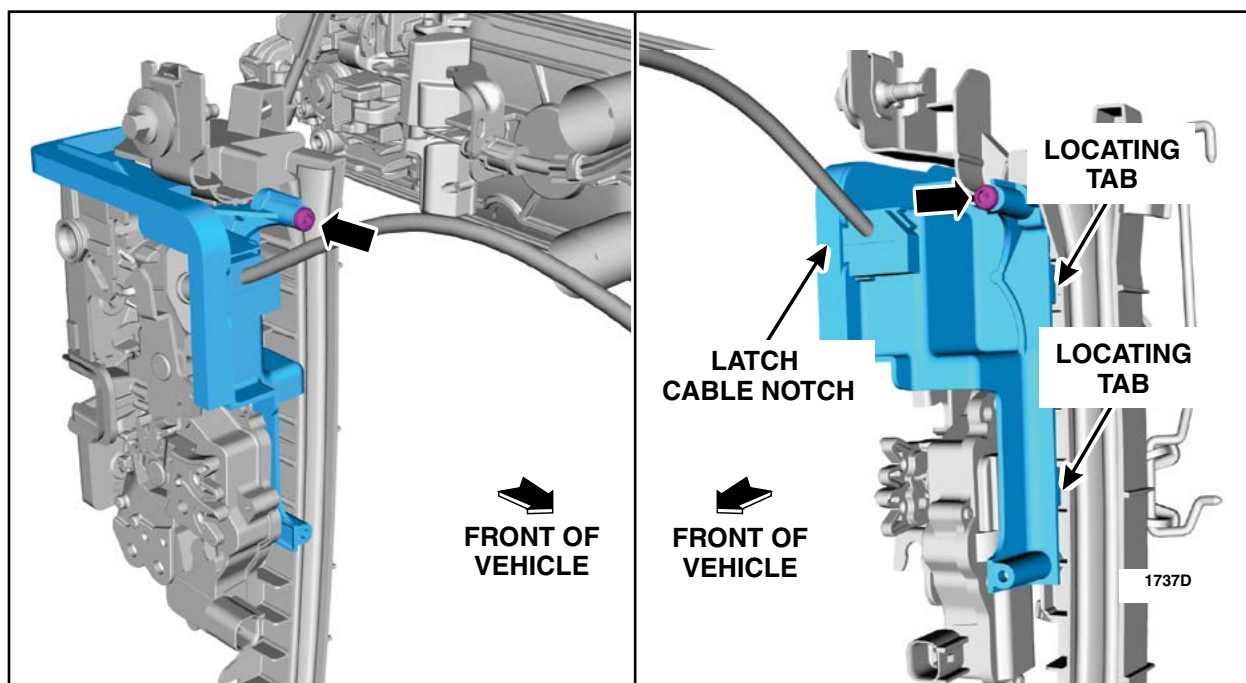

FIGURE 6
10. With the latch and door glass run assembly loose inside the door panel, install the door latch water shield into position. See Figure 6.
11. Install the *new* screw into the top hole of the shield. See Figure 6.